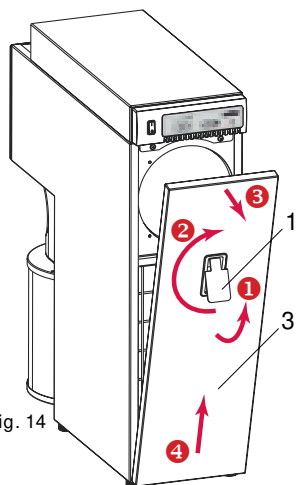

Fig. 14
- pull the seal 11 of the filter bag 16 off the filter nozzle 10 (fig. 14).
- insert a new filter bag 16 and close the seal 11 over the filter nozzle 10 (fig. 14).